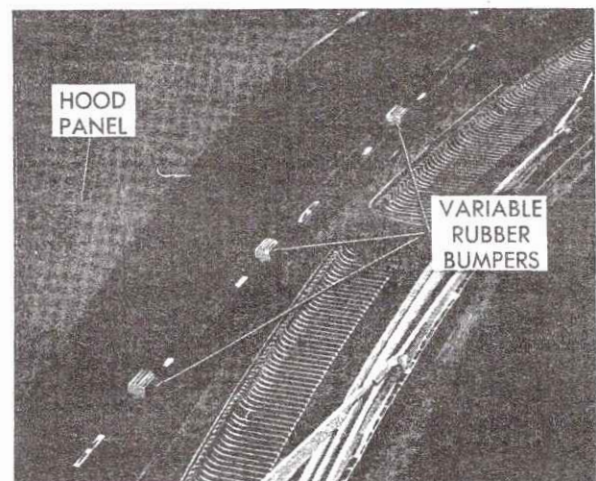

Fig. 11-4 Adjusting Hood to Cowl
3. Position variable thickness rubber bumpers in channel hood lacing along top edge of cowl, Fig. 11-4, to support hood panel flush in relation to cowl air intake grille.